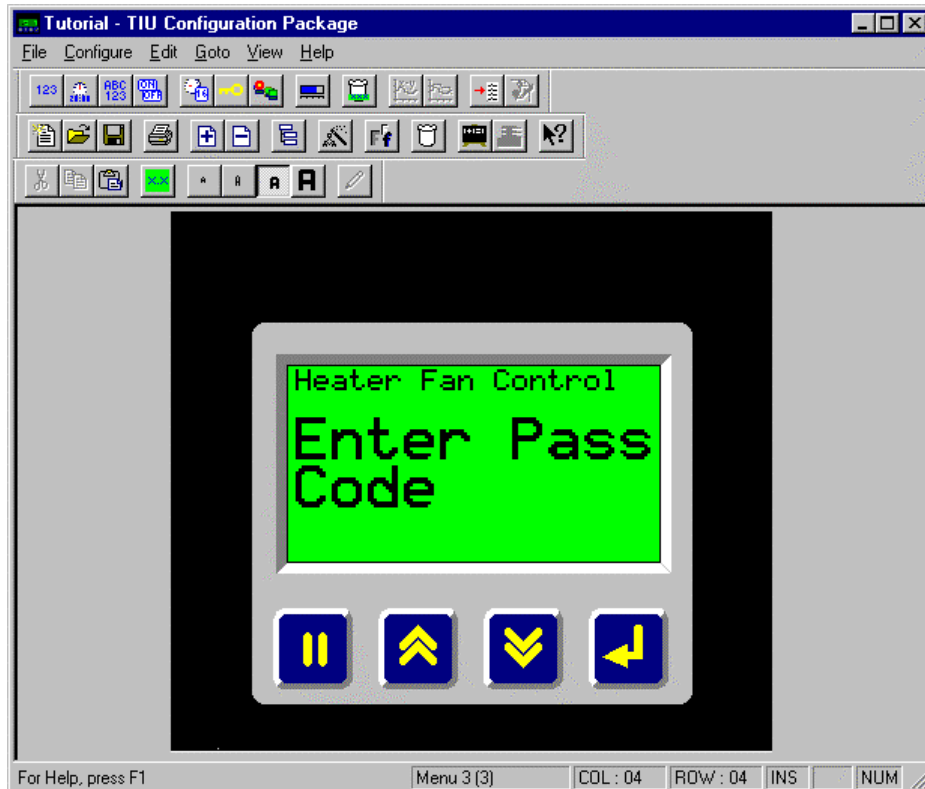

Figure 7.6 - Password Enter Screen
2. Enter the text, as shown in Figure 7.6.